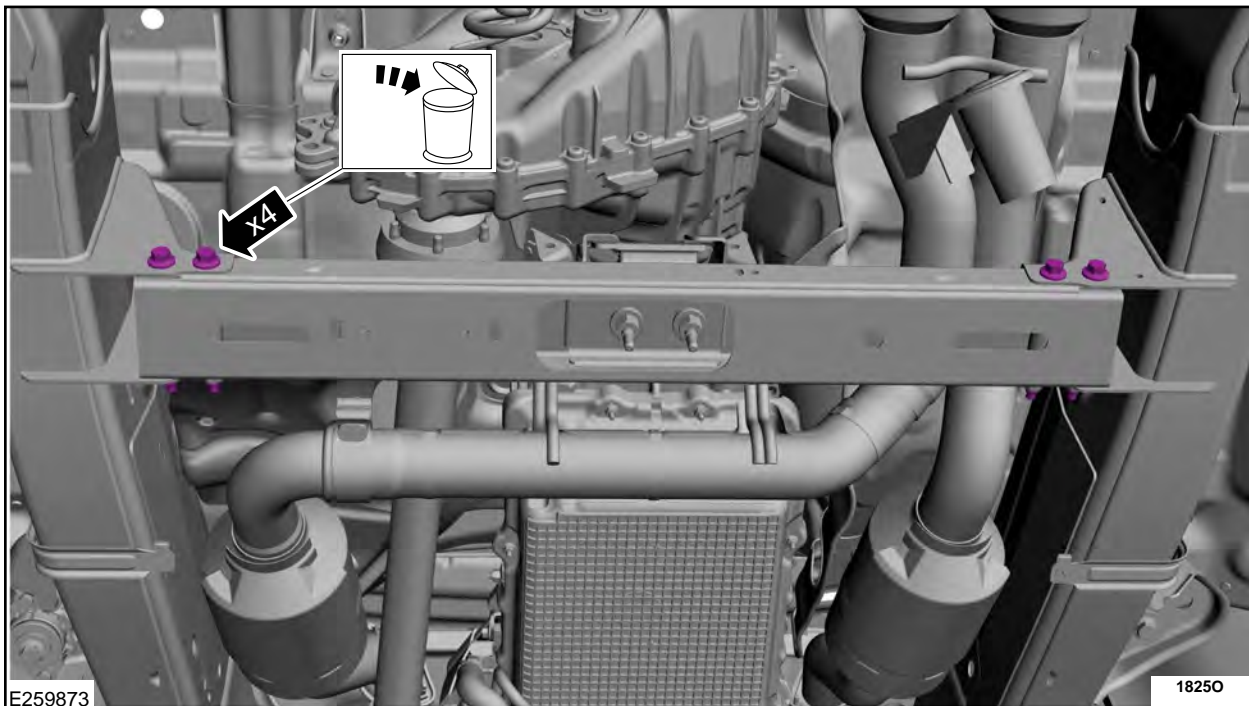

FIGURE 22
39. Remove and discard the transmission support crossmember nuts and bolts. See Figure 22.